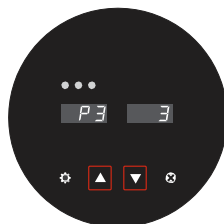

Fig. 13
2. Press the up (▲) and (▼) down buttons to select the timer you need, including 1,2 and 3, and the control panel will also show the light quantity as per the timer you set (Fig.13).